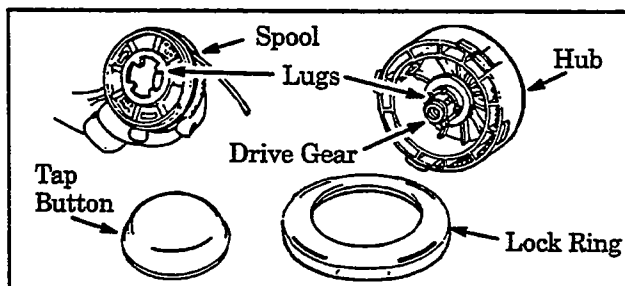
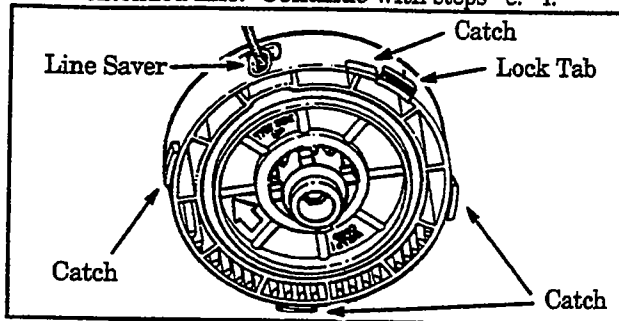

Figure 16
Figure 17
- b. Remove the lock ring, tap button, and spool. Figure 16 .
**NOTE:** The aluminum line saver (Figure 17) can become worn during use. After a groove is worn into line saver, remove it from trimmer head, turn it upside down, and reinstall it (with spool removed) to provide a new wear surface.
- e. Insert the end of the line through the line saver. Figure 17. Place spool in trimmer head. Press spool down, then turn it enough to lock lugs on spool under lugs on drive gear. Figure 16.
- f. Replace the tap button. Align the lock ring over the catches on the hub; push the lock ring down on the hub and turn it clockwise until the catches lock into place. Figure 17.